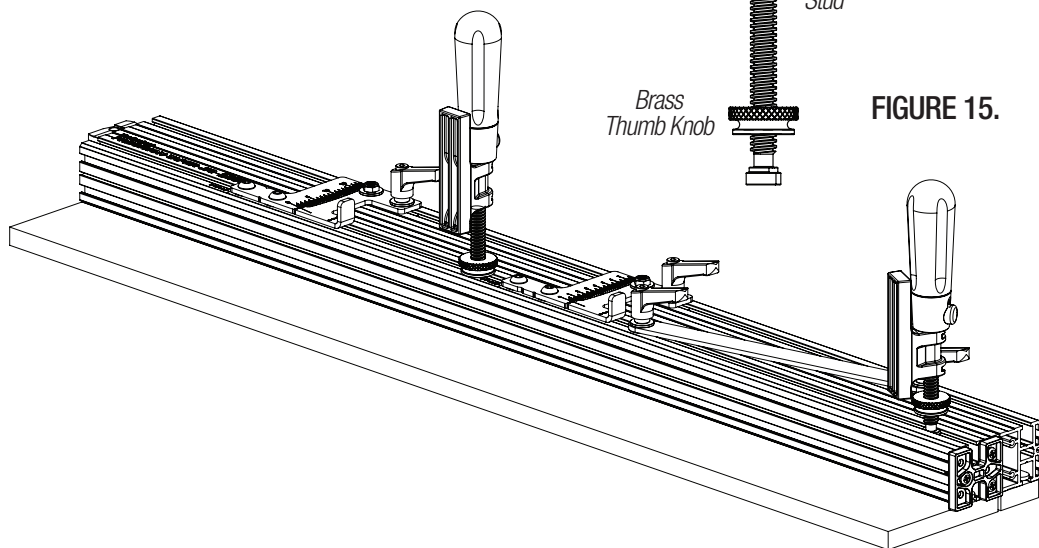

FIGURE 15.
2. The Clamping Dogs can be reversed from the UP or DOWN position to support a clamping range from 3" down to 17/32". Smaller workpieces may require a simple wooden spacer. **FIGURE 15.**